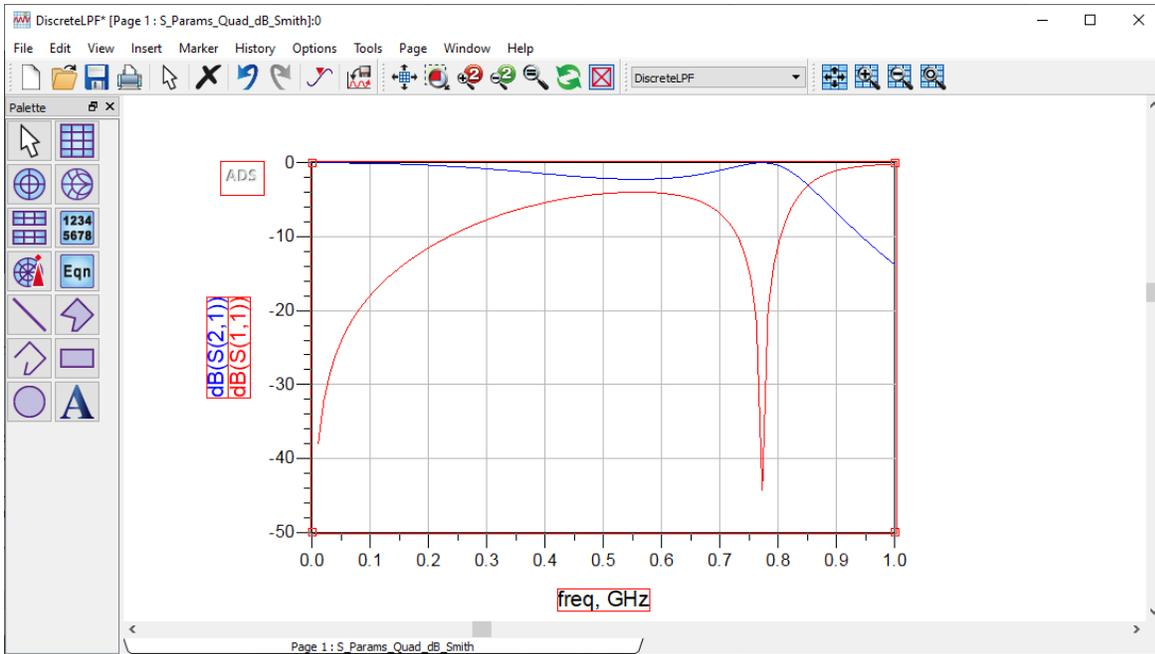

Figure 4. Plot of S(1,1) and S(2,1)
4. Click **OK**. Figure 4 shows the resulting data display.